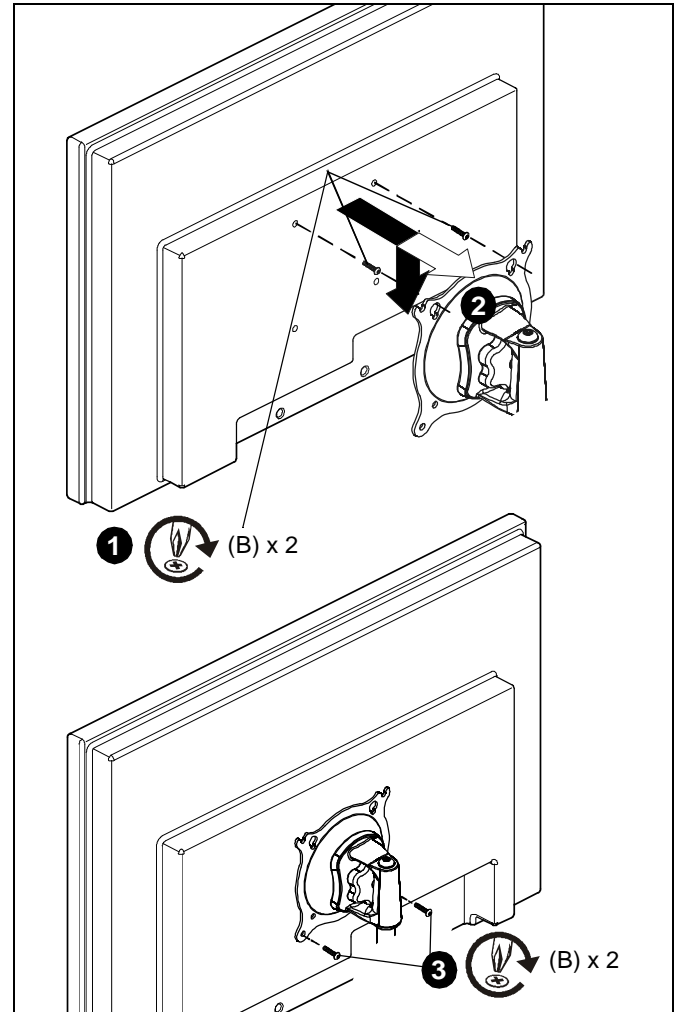

Figure 4
1. Using Phillips screwdriver, carefully install two M4 x 12mm Phillips screws (B) into the *upper* mounting holes on the display. Thread screws completely into display, then back out 3 complete turns. (See Figure 4)
2. Align two screws (B) (installed on the back of the display in the previous step) with the two top teardrop mounting holes on the Centris cup.
3. Using Phillips screwdriver, install two screws M4 x 12mm Phillips screws (B) through the *lower* mounting holes in Centris Turntite head into the display. (See Figure 4)
4. Tighten all four screws (B). Do not overtighten!